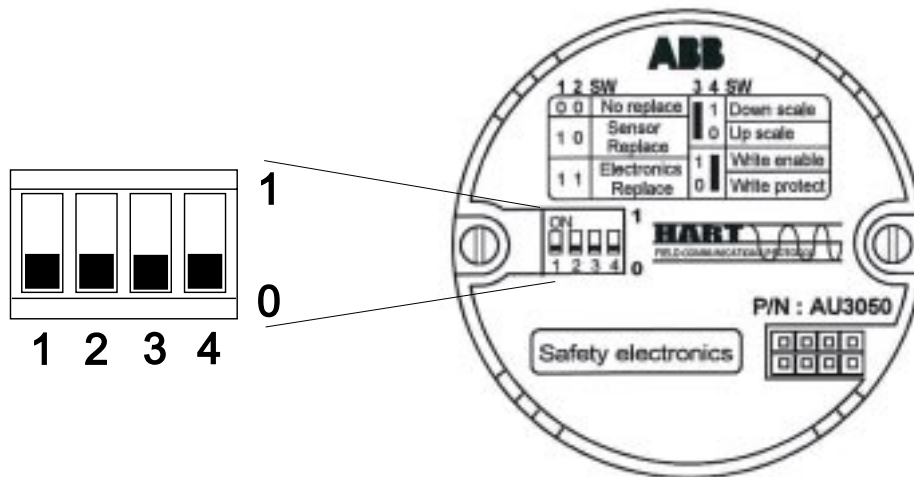

Fig. 5.1 - Default Dip switches settings
- d. If a "WRITE DISABLE" message appears on the Integral Display, check the Dip switches settings (you need to open the cover on the electronic side and to pull out the integral display: see figure 5.1).
4. Close equalizing (C) valve.
5. Open low pressure (B) valve.
8. If the output is not 4 mA or the message "WRITE DISABLE" appears on the Integral Display, check the Dip switches settings (you need to open the cover on the electronic side and to pull out the integral display: see figure 5.1).